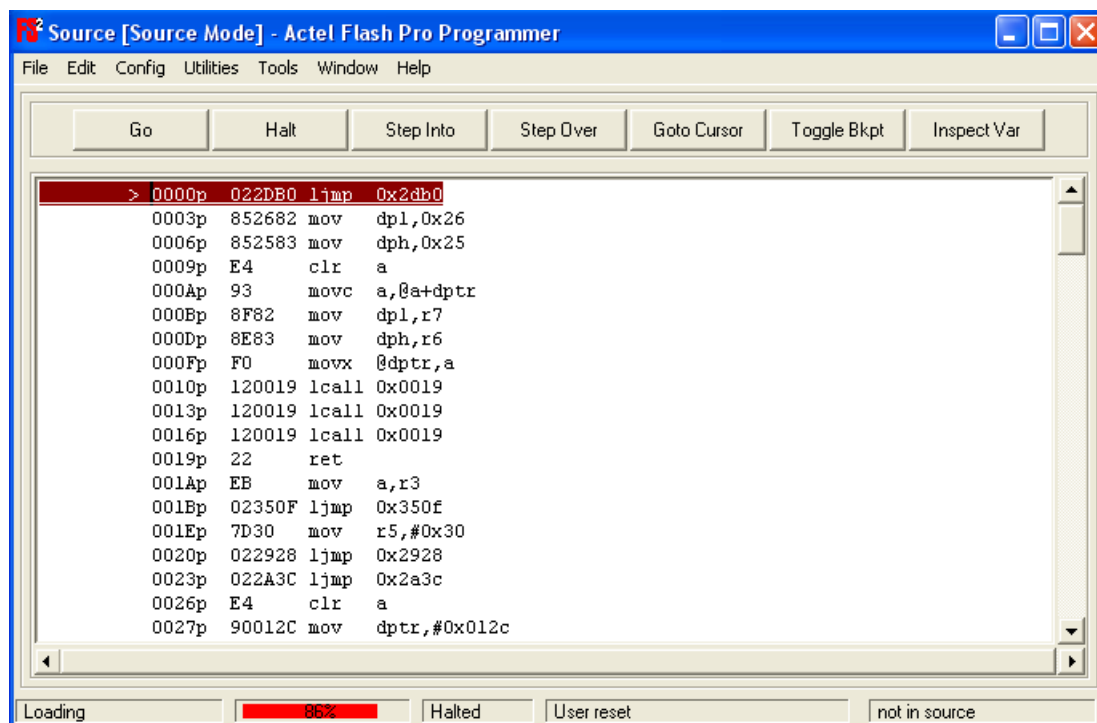

Figure 2-8 • Loading the Hexadecimal File with the ISA-Actel51 Debugger
- Click **OK** and wait for the hex file to be loaded (Figure 2-8).